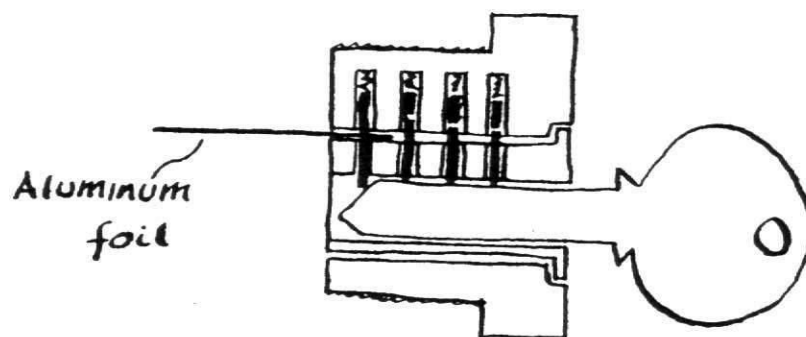

FIG. 2
- 3 Adjust back pin up and down with end of blank and gently push foil until it slides through joint in pin (fig.2)